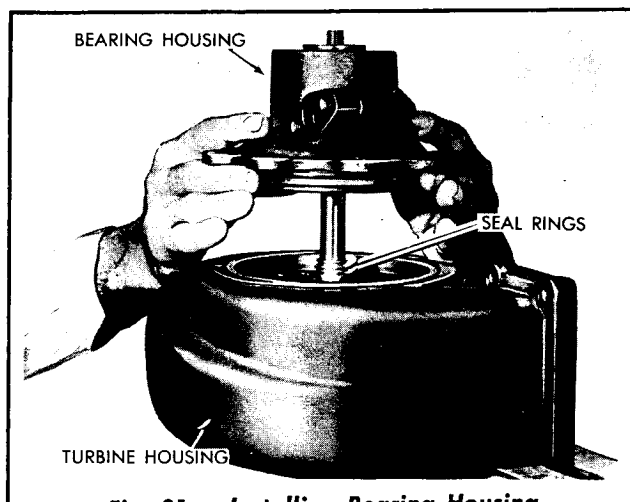

Fig. 21 — Installing Bearing Housing
- c. Place bearing housing (nozzle back plate down) over shaft. Do not force. If rings do not enter housing easily, remove housing and re-center rings (Fig. 21).